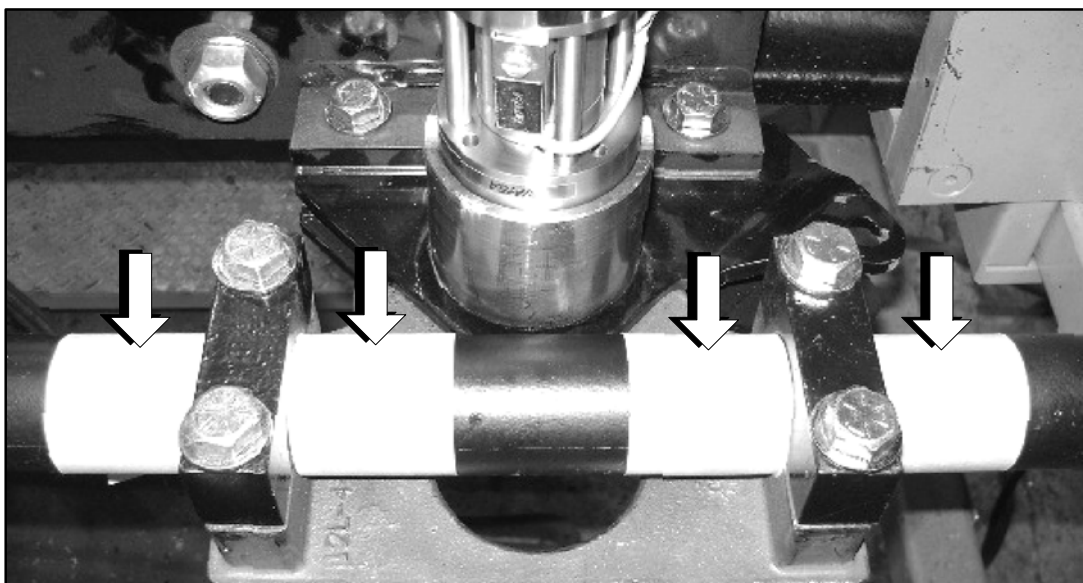

Figure 3.
7. Using masking tape, mark each side of each clamp to indicate the tie rod / clamp relationship for re-installation at a later step in this procedure (refer to Figure 3).
13. Using the new hardware provided, align and install new clamps, p/n 12-04-1153, in between the masking on the tie rod (refer to Figures 3 and 6).